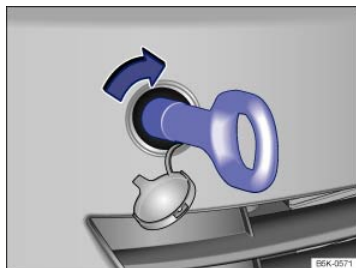

Fig. 238 In the right front bumper: Installing the towing eye.
There is a threaded hole for the towing eye in the right front bumper behind a cover ⇒ Fig. 238.
- Screw the towing eye **clockwise** into the threaded hole as far as it will go (arrow) ⇒ Fig. 238 ⇒ ①. Use the lug wrench to turn and tighten the towing eye.